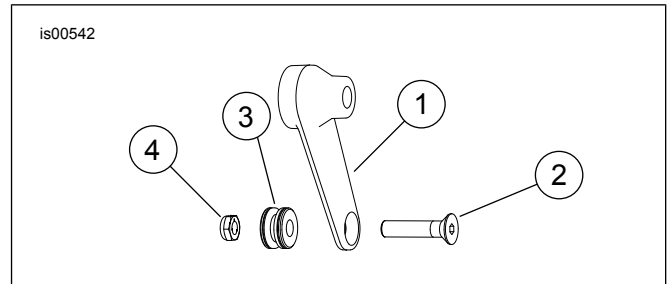

Figure 2. Assemble Third Point Arm
- See Figure 2. Assemble a 3/8 x 1-1/4 flat head screw (2), docking point (3) and lock nut (4) to each shock spacer (1) as shown. Tighten to 28–37 N·m (21–27 ft-lbs).